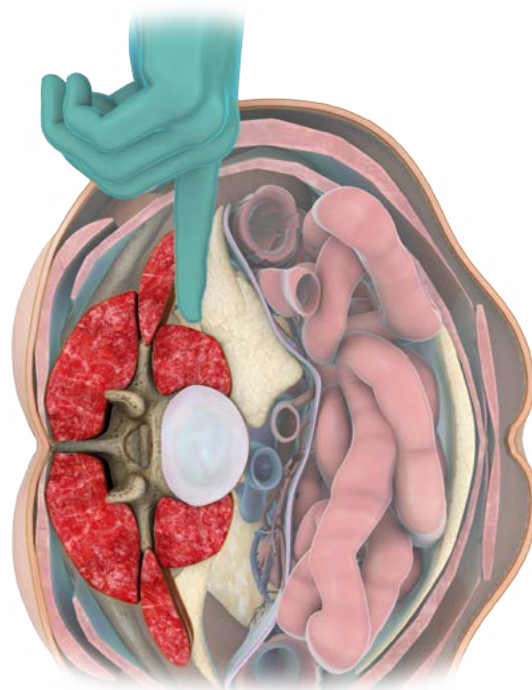

Fig. 3b
- Use the index finger to sweep the peritoneum anteriorly (**Fig. 3b**)